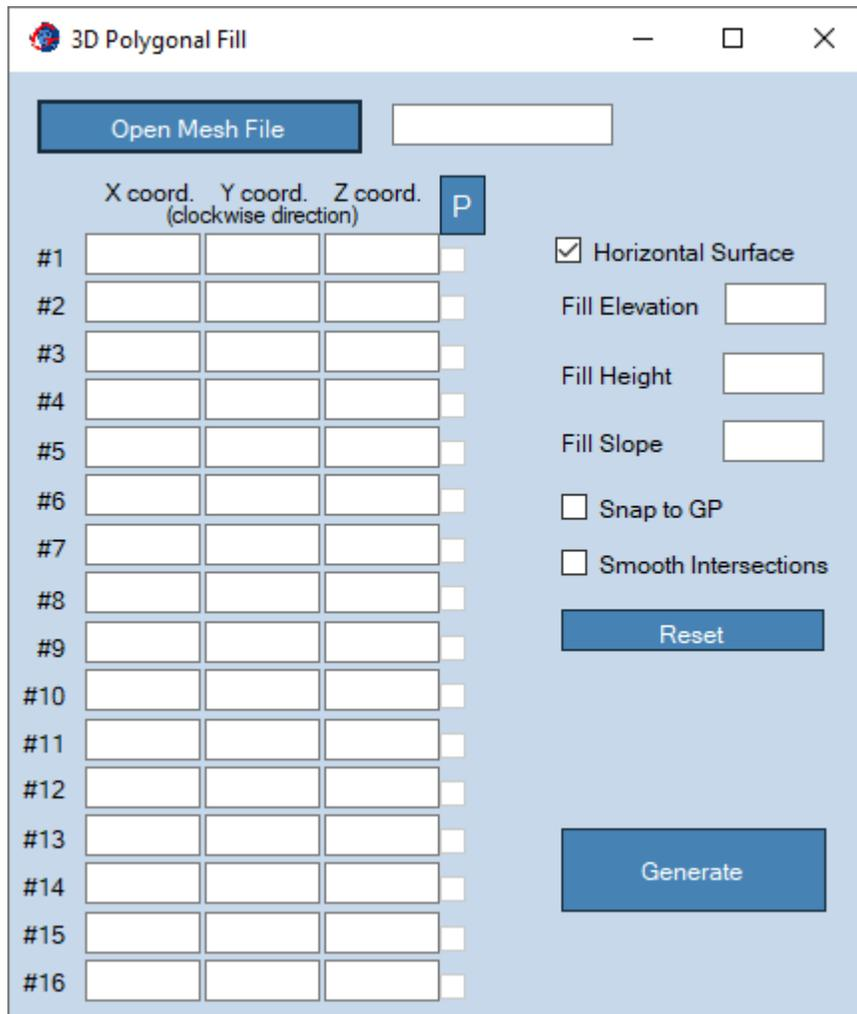

Figure 26: 3D Surfaces Menu – Polygonal Fill.
- **Meshing Menu, Polygonal Fill:** This option (shown in Figure 26) defines a Polygonal Fill landform over any given surface.